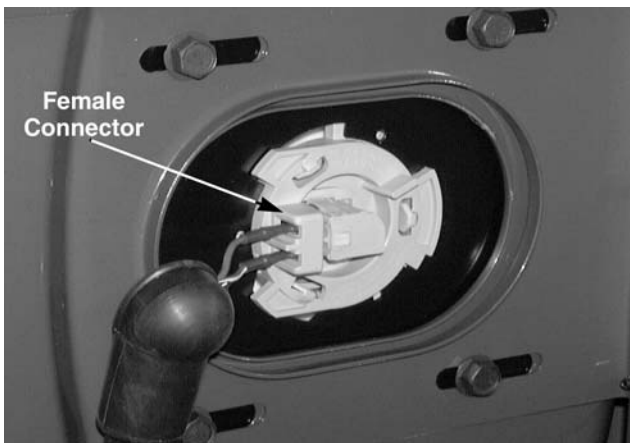

Figure 8-19.
2. Raise the hood, remove one of the wiring harness female connectors from the seat switch, and lower the hood. See Figure 8-19.